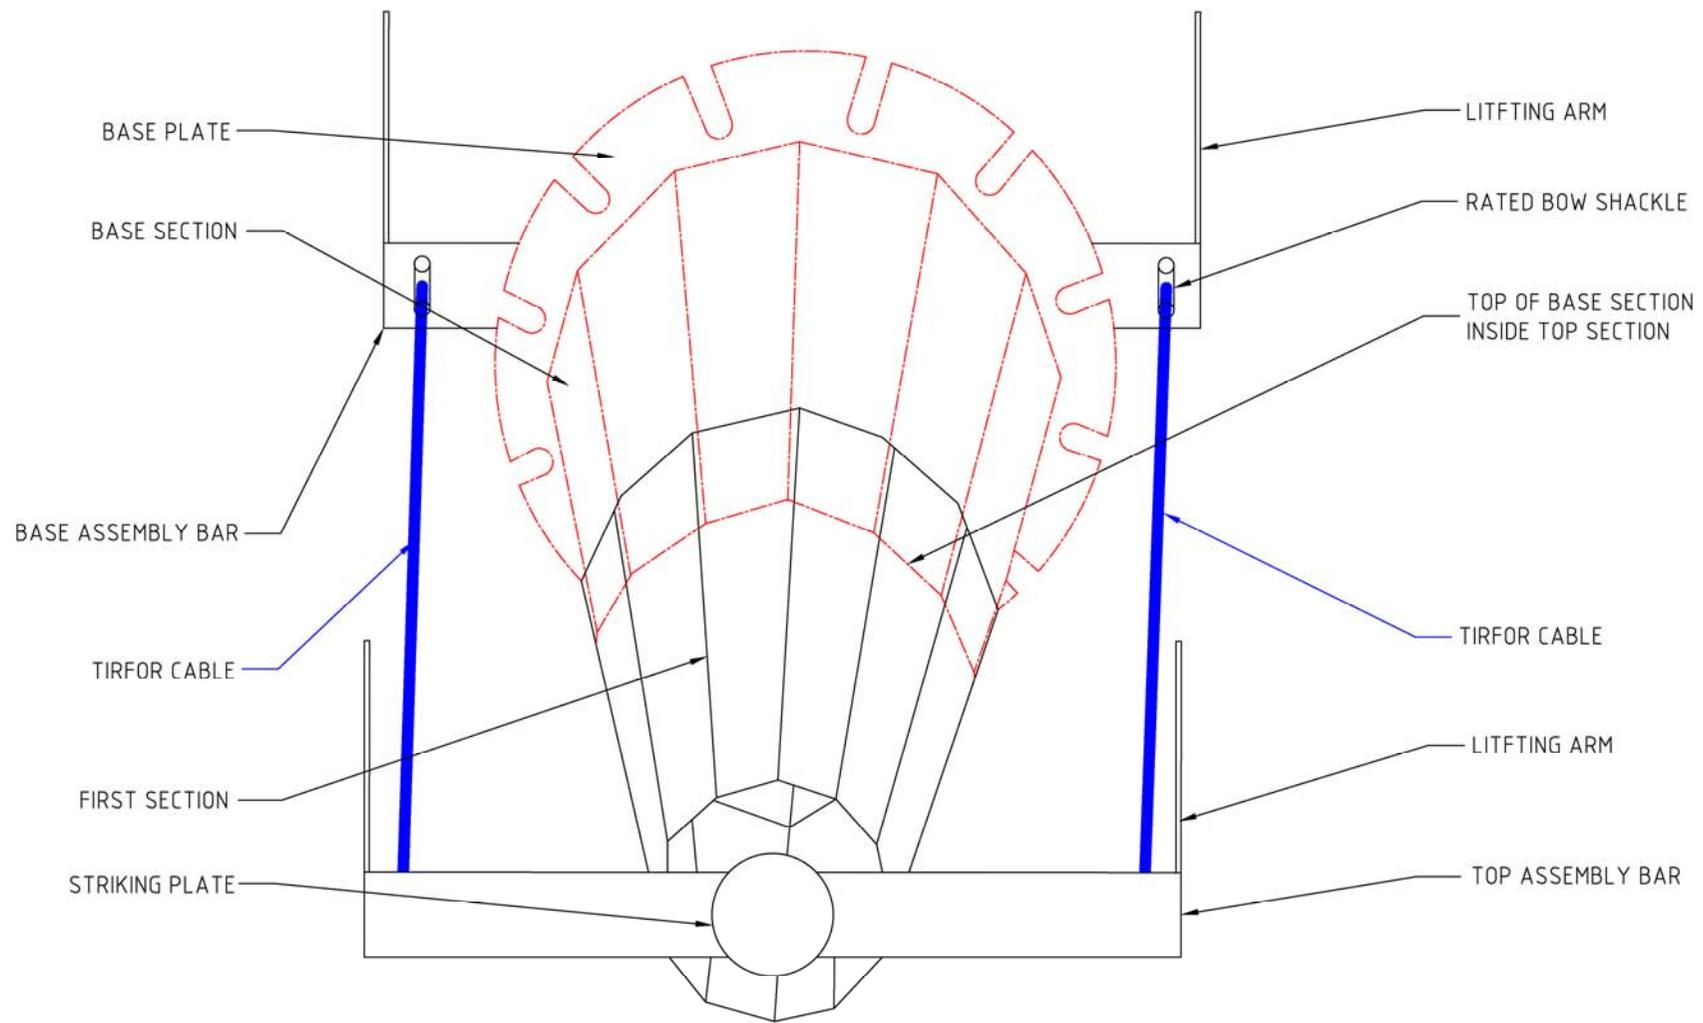

FIGURE 6
2. The slip joints are the joints where the column sections meet with the female end of higher section sliding over the male end of the lower section. The minimum slip overlap required on these joints is greater than or equal to 1.5 x the outside diameter (across the flats) of the male end of the slip joint of the lower section. (See Figure 6) below. **This 1.5 measurement is a minimum only and the sections should be joined together as tightly as possible to allow for manufacturers tolerances.** Mark this measurement on the male end of the lower section prior to joining the sections. If the final slip length is to be recorded, mark an additional spot which is equal to 2 x the outside diameter of the male end of the slip joint of the lower section as a measuring reference. If in the event that the minimum slip is not achieved, the assembly procedure should cease and G&S should be contacted immediately. Erecting a column which has been joined with less than the minimum required slip could result in serious injury to person(s) or damage to property.